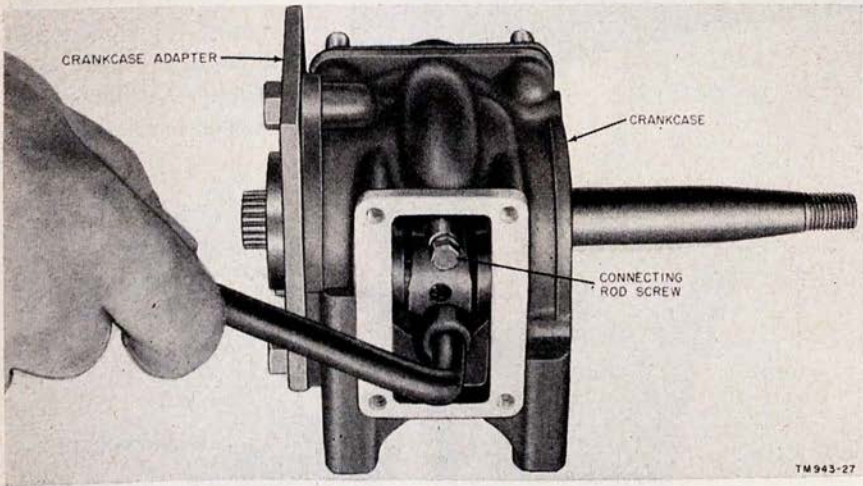

Figure 27. Removing connecting rod bearing cap screws.
- (1) Working through the opening in the crankcase where the carburetor has been removed, unscrew the two cap screws and lockwashers that hold the connecting rod bearing cap to the connecting rod, and remove the cap (fig. 27). Push the connecting rod and piston up through the crankcase.